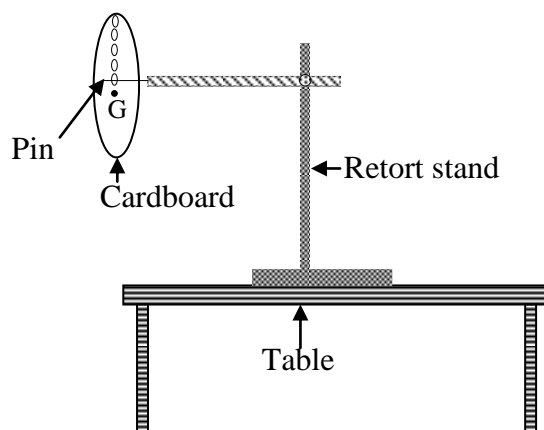

Figure 22
- (a) Suspend the cardboard from the hole nearest its centre of gravity, G and record the distance, l between the point of suspension and G as shown in Figure 22: